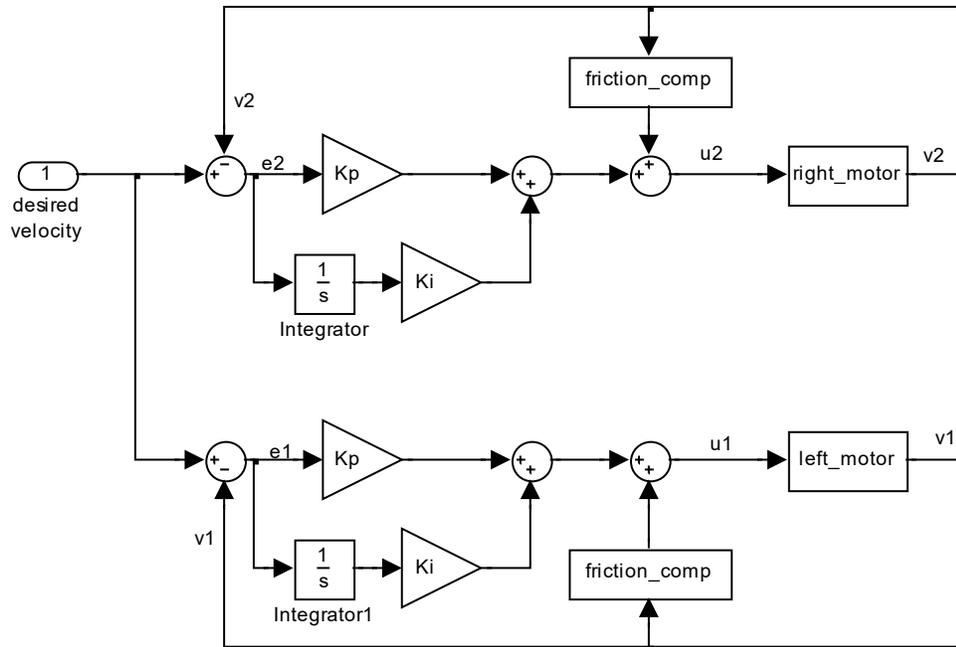

Figure 1: Independent PI control loops for the right and left motors.
Exercise 3: Closed-Loop Speed Control with Decoupled Control Loops (See Figure 1).
1. In this exercise you will implement the decoupled PI controller shown in Figure 1. NOTE here that we will change the function of the encoder wheel (encoder 3). Instead of being used to set uLeft and uRight directly as in exercise 2, the value read from the encoder wheel will set the "desired velocity" shown in Figure 1. From here forward we will call this desired velocity "Vref" (Velocity Reference). uLeft and uRight will be set to the PI control equation. For example, $u_{Left} = K_p * err_{KLeft} + K_i * I_{KLeft}$.
- c. Now that you have the error and integral states, you can calculate your $uLeft$ and $uRight$ from the equations shown in Figure 1. For friction compensation use 60% of the coulumbic and viscous values you found in lab 3. As a start, use $Kp = 3.0$ and $Ki = 5.0$. These are good starting gains assuming that all velocities are measured in tiles/second. You will tune these slightly in lab to achieve a more responsive PI control.